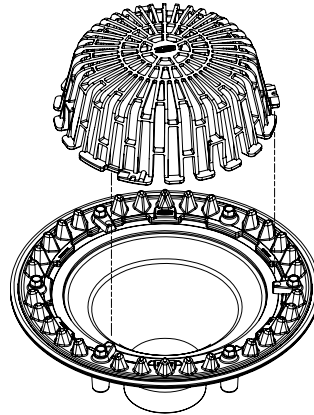

Figure 1
2. Position the dome so that the notches on the bottom rim of the dome align with the protruding lugs on the clamping collar. For drain sizes 2 thru 4 [51 thru 102], there are three notches, and for drain sizes 6 thru 8 [152 thru 203], there are four notches (Fig 1).